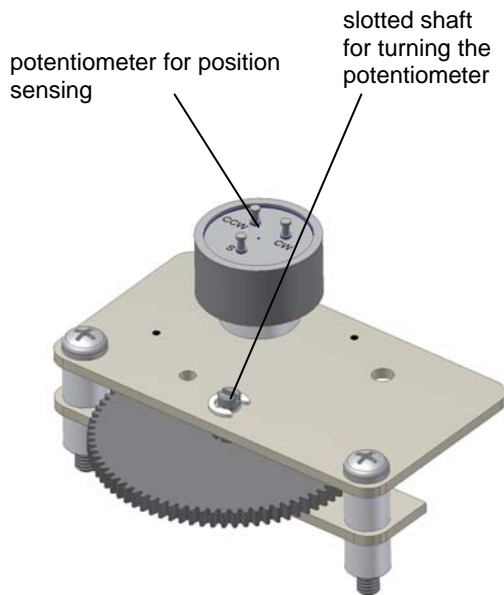

fig. 12
- For units without mechanical position indicator turn the slotted shaft (see fig. 12) with a screwdriver until the value displayed at the position is between 5 and 10%. (see fig. 15)